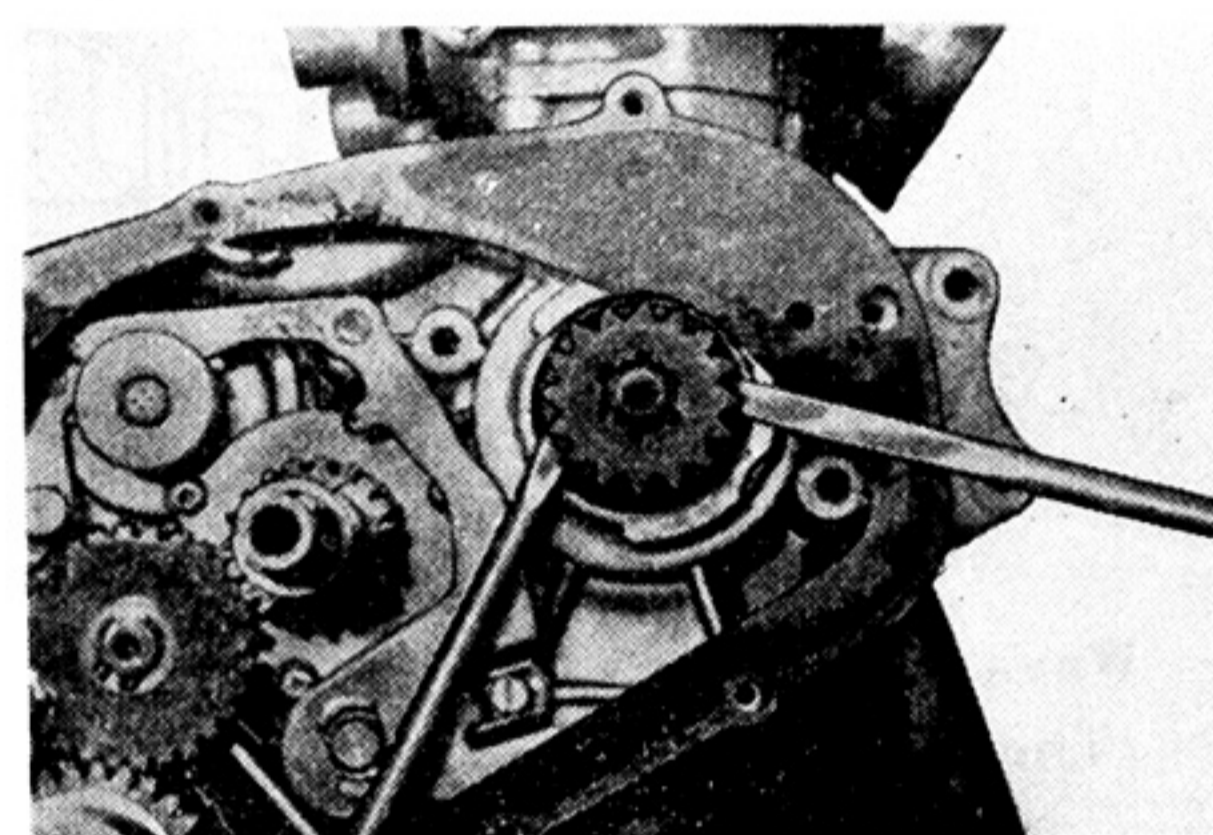

Fig. 3-9-2
- b. To remove the gear, use a slot-head screw driver in the manner shown in Fig. 3-9-2.